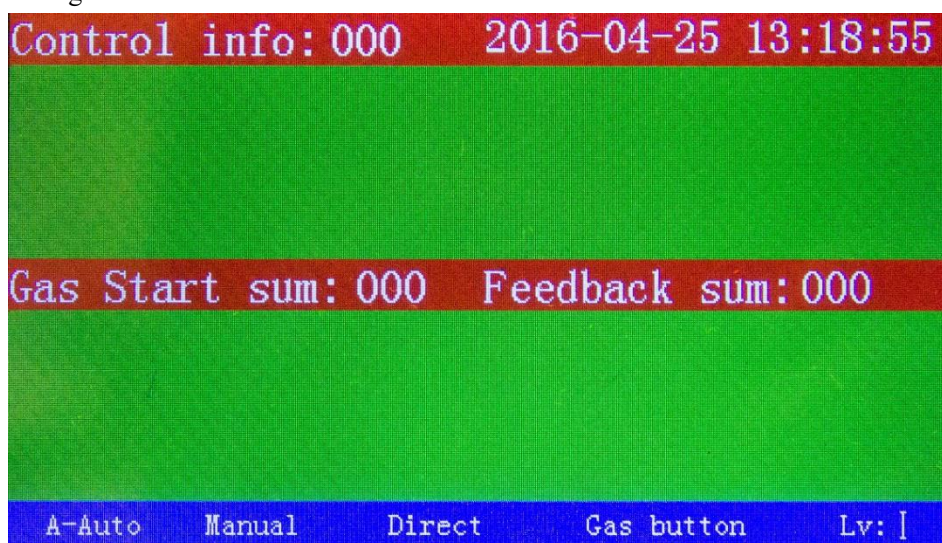

Fig.4-14
- Press 'spray start' for corresponding zone on the board and LCD will display delay for this zone as Fig. 4-14.